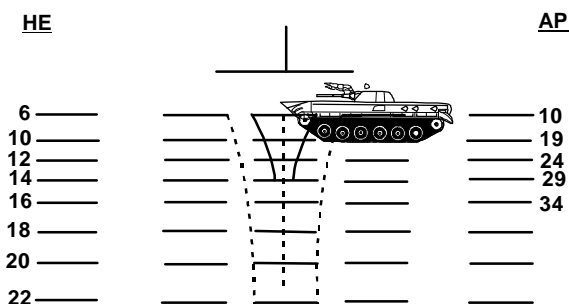

Figure 3-17. AP Lead Applied to a Moving Target.
When using armor piercing (AP) ammunition, use a 5-mil lead from center mass of target. (See fig. 3-17.)